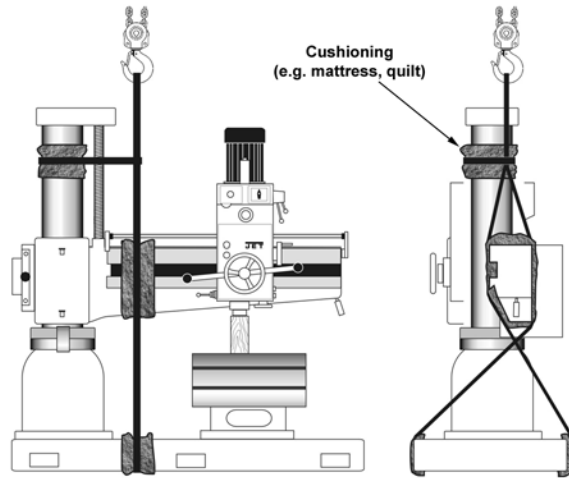

Figure 9
(Figure 9)
2. Place lifting straps as shown in Figure 9. Use cushioning to protect machine surfaces.